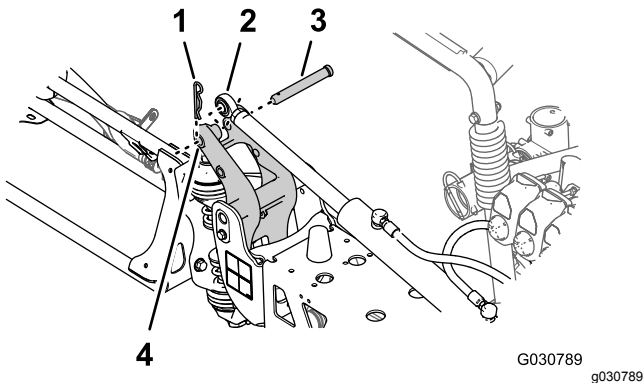

Figure 136
- Align the rod end of the lift cylinder with the hole 25 mm (1 inch) in the horn of the pivot fitting (Figure 136).
- Secure the lift cylinder to the pivot fitting with the clevis pin and hairpin (Figure 136) that you removed in step 3 of Removing the Lift Cylinders (page 34).